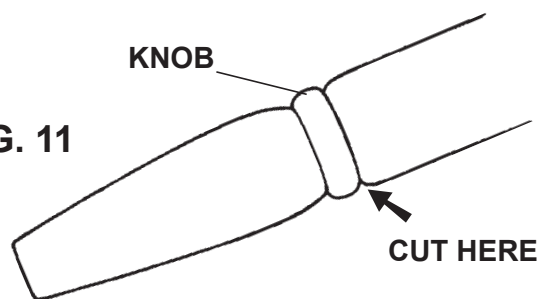

FIG. 11
- 11) To convert your barstool to a counterstool, simply cut off the bottom portion of the leg, above the knob, as shown in FIGURE 11. This will adjust the seat height to 24³/₄".